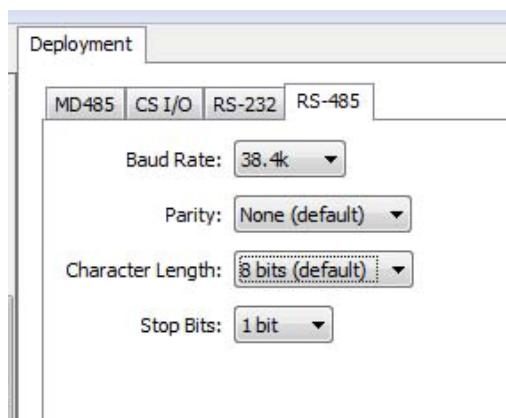

FIGURE 8-15. MD485 RS-485 tab
6. Click the **RS-485** tab. Set **Baud Rate** to **38.4k**. Set **Parity** to **None**. Set **Character Length** to **8 bits**. Set **Stop Bits** to **1 bit** (FIGURE 8-15).